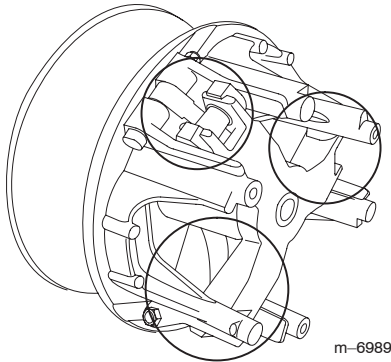

Figure 53
- Lubricate the moving parts in the areas circled in Figure 53 using Toro Dry Lubricant Spray, available through your Authorized Toro Dealer or Distributor.